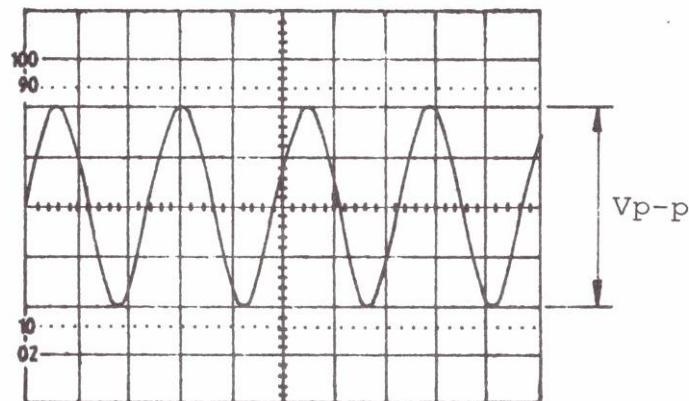

Fig 6-3. AC Voltage measurement
The measurement of the voltage waveform is performed as follows ; Set the VOLTS/DIV switch in order to obtain the amplitude for easy reading, read the amplitude as shown in Fig. 6-3 and calculate by equation(1) or (2).